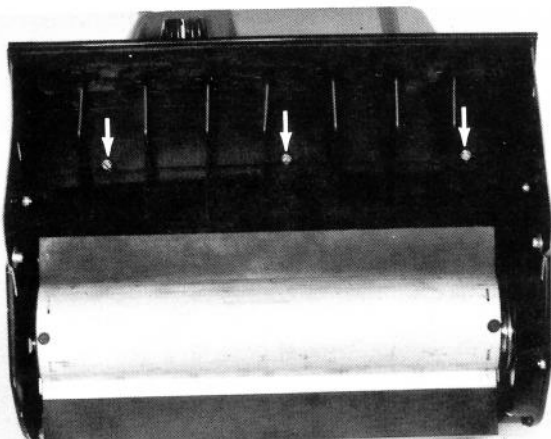

Figure 18
1. Remove three screws holding front of shroud to impeller housing (Fig. 18).
9. Secure front of shroud to impeller housing with three 19 mm screws (Fig. 18).